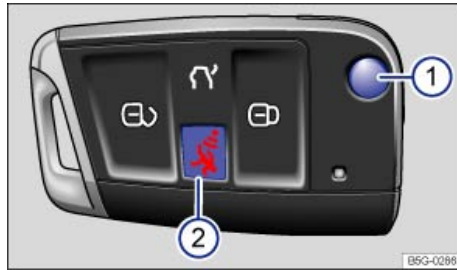

Fig. 18 Remote control vehicle key with panic button.
Pressing button ⇒ fig. 18 (1) releases the key bit and folds it out.